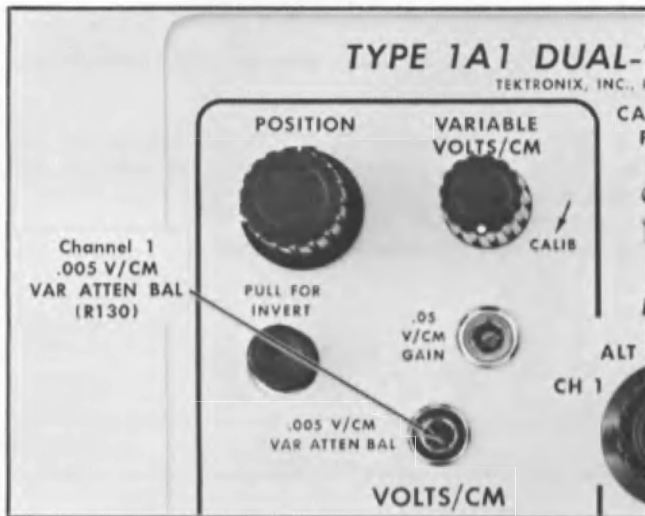

Fig. 7-3. Step 1 adjustment location.
b. CHECK—That a free running trace is present near the center of the screen. The trace does not shift as the Channel 1 VARIABLE VOLTS/CM control is rotated back and forth. If the trace is not present and/or trace-shift occurs, adjust the Channel 1 .005 V/CM VAR ATTEN BAL control (see Fig. 7-3) to vertically position the trace onto the screen.